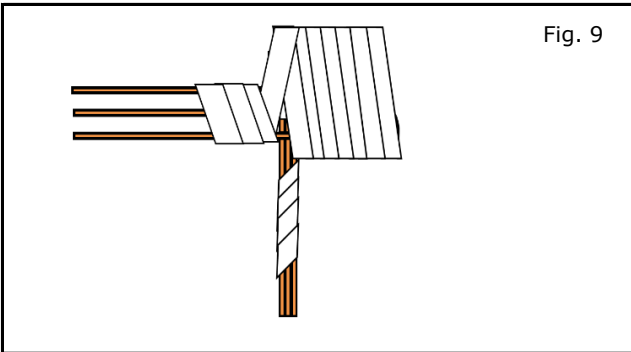

Fig. 9
a) Make sure the finished wrap looks similar to Fig. 9.